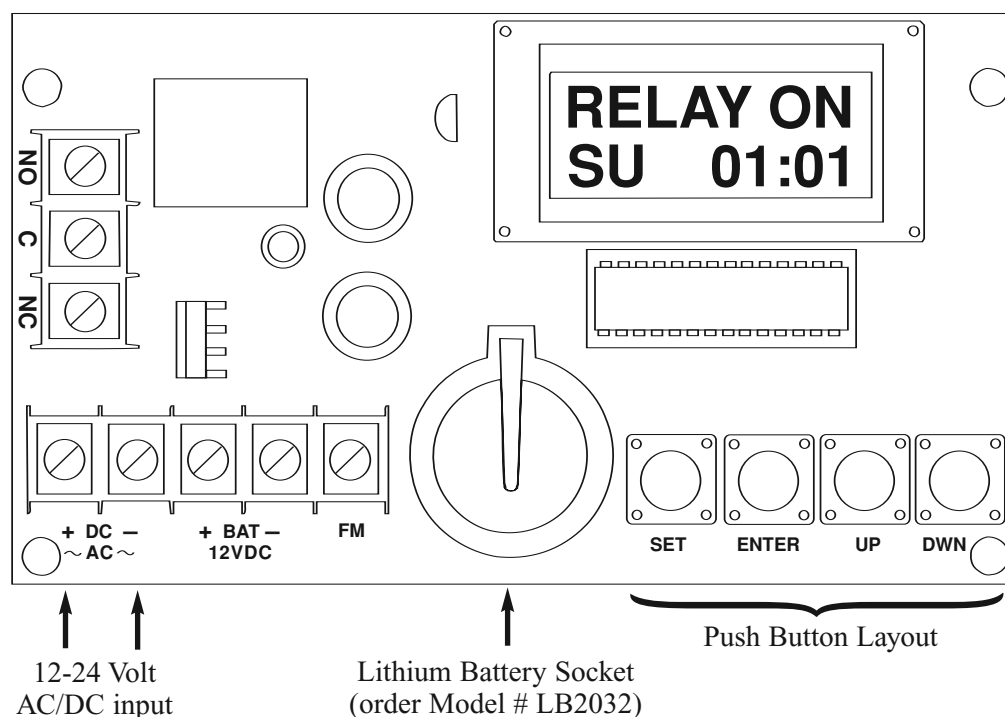

Fig. 1
4. Insert lithium battery (optional/not included. Order part LB2032) in battery holder (*fig. 1 pg. 4*). With the + positive side facing up.